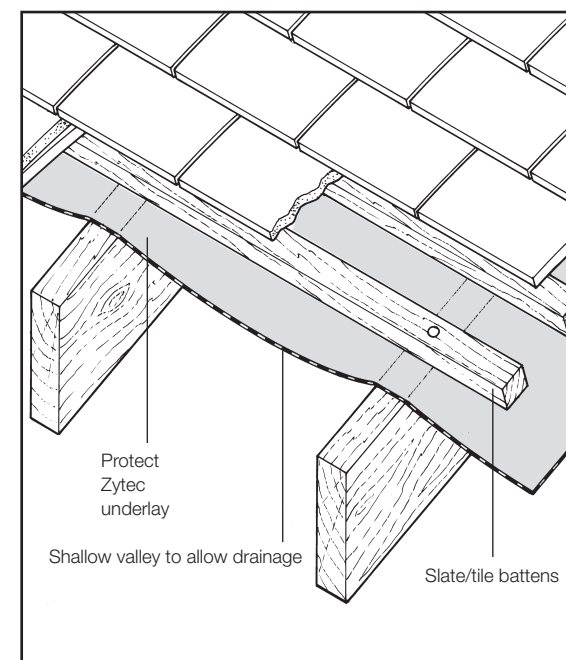
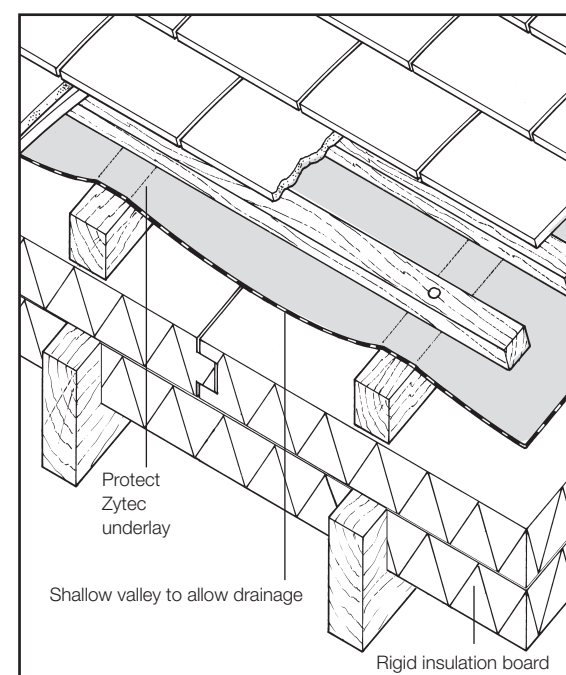
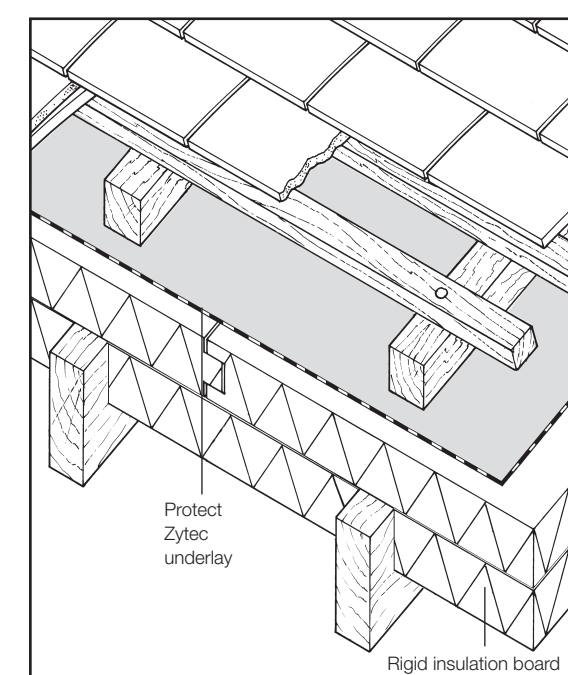

Fig 1
Fig 3
Fig 4
- Protect Zytec vapour permeable underlay may be used for cold roofs with ventilated or unventilated loft spaces (see Figs 1 and 2) or warm roofs with insulation between and/or above rafters (see Figs 3 and 4).
If the ceiling is well sealed, as defined in BS 5250, condensation can be controlled by the use of Protect Zytec with no additional ventilation. Protect Zytec can be laid draped unsupported (see Fig 3) or fully supported on insulation (see Fig 4). To ensure the integrity of a well sealed ceiling, a separate vapour control layer such as Protect VC Foil Ultra must also be used on the warm side of the insulation.